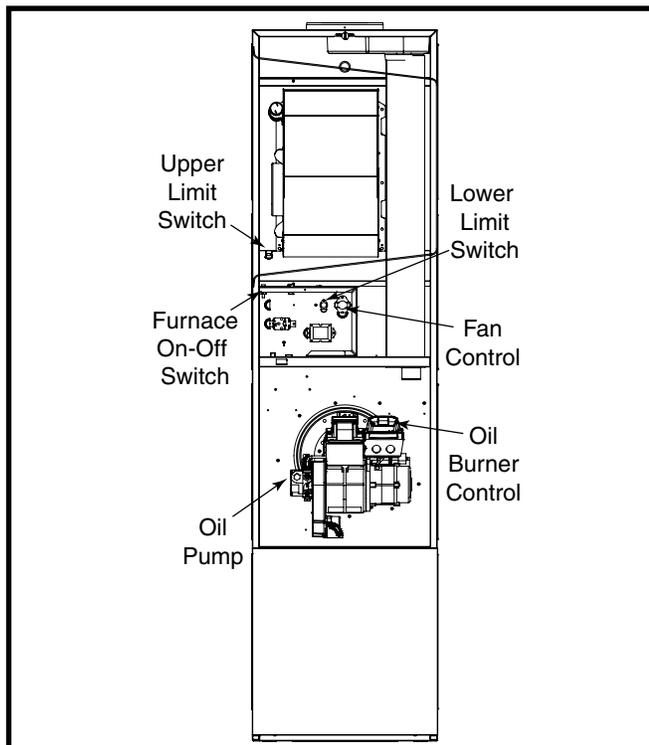

Figure 28. Furnace Controls - Oil Furnace
- Verify the furnace door switch is in the **ON** position. See Figure 28 \(page 19\).
Furnace On / Off Switch: This switch turns electrical power to the furnace on and off. The switch must be set in the ON position for the furnace to operate. If blower operation is not desired, the furnace On-Off switch may be set in the Off position to cut the electrical power to the furnace. See Figure 28.
Limit Control: This furnace is protected by two high temperature safety limit switches. The auxiliary (upper) limit switch and the high temperature (lower) limit switch are automatic reset types. If either limit trips, the burner will shut off. If either limit switch trips off again soon after resetting, set the furnace On-Off switch to the Off position and call your authorized serviceman. See Figure 28.
Oil Burner Primary Control: The primary control for oil gun furnaces starts the burner, monitors a safe operating cycle, and shuts the burner off at the end of a heating cycle. The control uses a light sensing transducer to determine if fuel ignition has been successfully attained. If ignition is not attained by the end of the safety ignition timing period, the control shuts the burner off and enters "lock-out." See Figure 28.